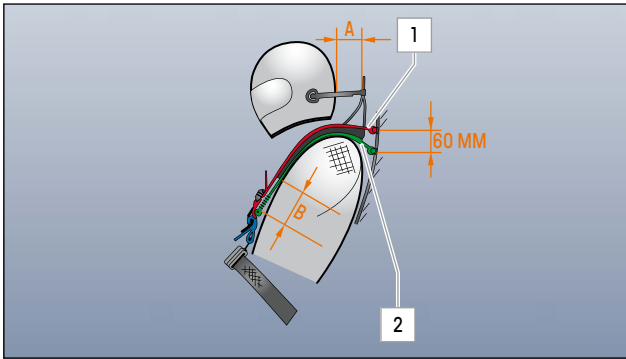

FIG.53 CORRECT DISTANCE BETWEEN THE "HANS BELT" AND THE "BODY BELT"
The connection between the "HANS belt" 1 (» Fig.53) and the "BODY belt" 2 (» Fig.53), must be at a minimum distance from the yoke ends of the HANS®. This specific minimum distance is important to ensure the effectiveness of the head and neck protection during an accident.
- The sum of the two values **A** and **B** from the adjacent drawing must be > 100 mm (> 3.94 inches) (» Fig.53).
- ▶ The head with the helmet is pulled forward until the helmet belts are tight. Measure the distance between the head and neck protection collar part and the helmet = distance **A** (» Fig.53).
- ▶ Subtract distance **A** from 100 mm (3.94 inches) = distance **B** (» Fig.53). This is the minimum distance between the head and neck protection yoke ends and the belt connection that must be present.
Always pull the "HANS belt" 1 (» Fig.53) tight. The effect of the head and neck protection depends on the friction between the yoke surfaces and the "HANS belt". It is preferable that the "HANS belt" is tightened by another person rather than by the driver. This will ensure a better fit.